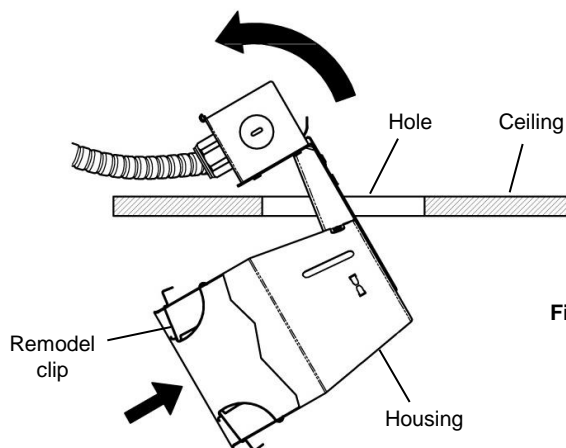

Fig. 4
1. Slide the housing through the hole opening. (Fig. 4)